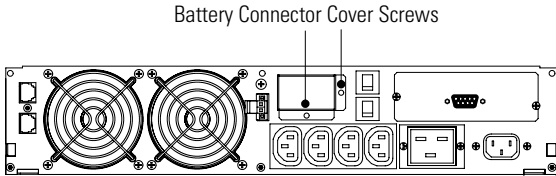

Figure 15. Battery Connector Cover (E/EH UPS Models Only)
- 4. E/EH UPS models have a battery connector cover that must be removed before installing the EBM(s). Remove the cover from the rear panel as shown in Figure 15.